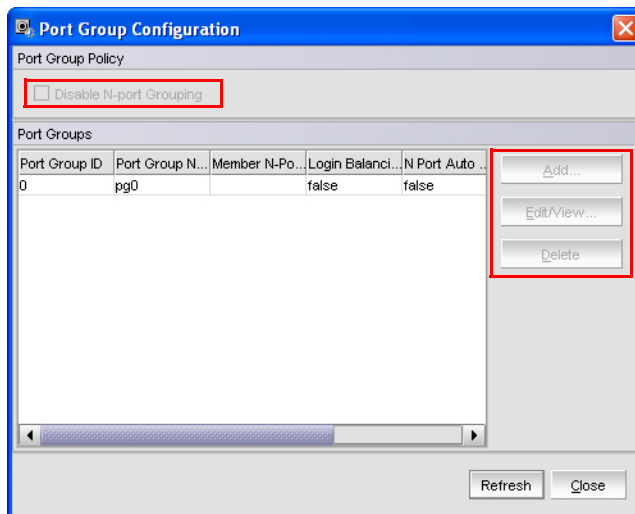

FIGURE 51 Port Group Configuration—view only
- **Configure N-Port Groups** – You can only view the port group details from the **Port Group Configuration** window. The following options are disabled as shown in Figure 51: